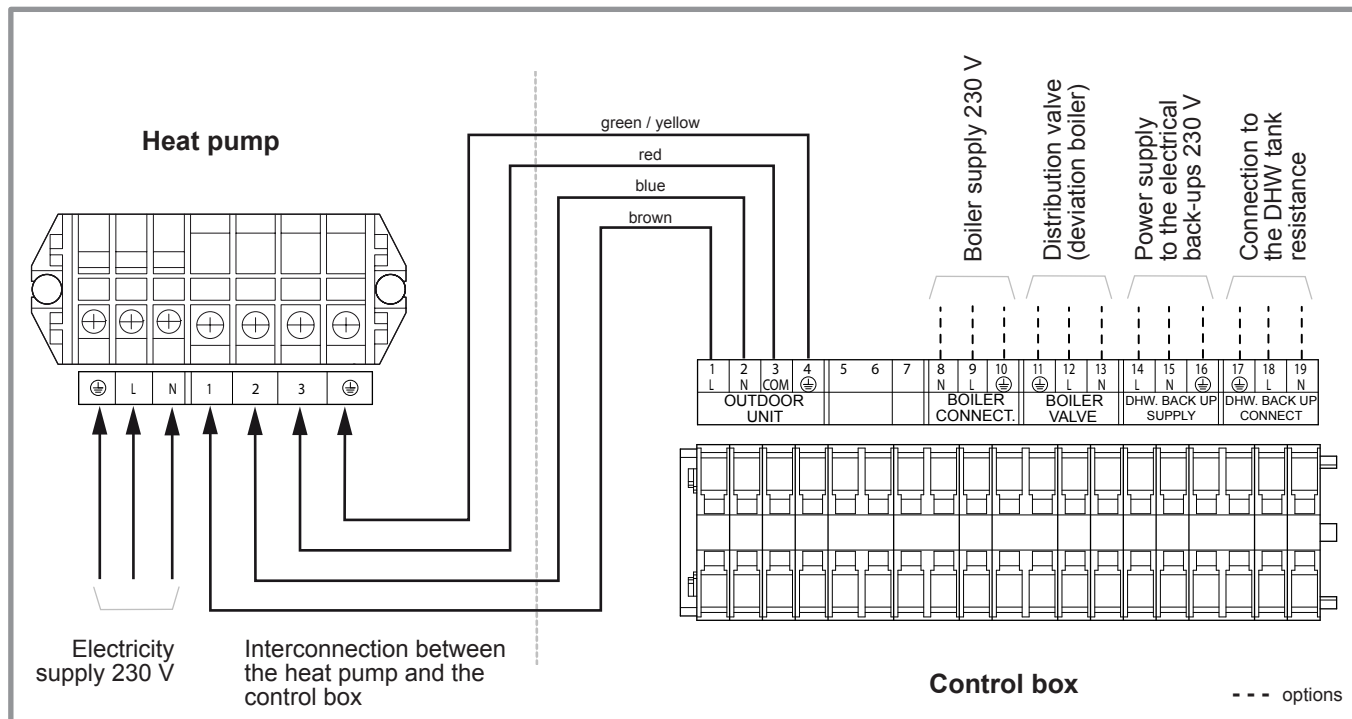

figure 7 - Connections to terminals
• Make the connections in accordance with the diagram figure 7.